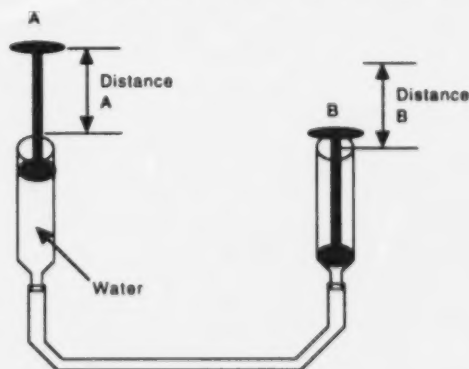

Figure 13 - Pump System
- Set up the pump system as shown in Figure 13. Check all hose connections to make sure they are tight and will not leak water.